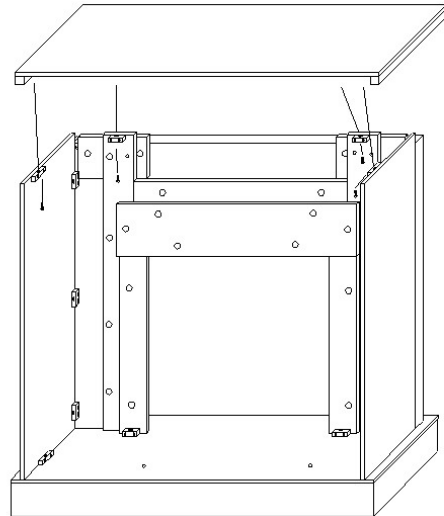

Fig. 9
Step 9: Install the TOP [A] to the unit as shown in Fig. 9 with 4 KD SCREWS [M]